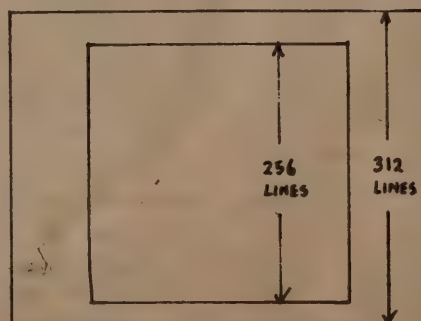

Fig.1
**HISTORICAL-** First of all, it is not generally realised that the SSTV system originally devised by Copthorne Macdonald was an AM system with negative going video modulating a 2300Hz sub-carrier. After a couple of years trial with this system it soon became obvious that an FM system would give superior results, particularly from the point of view of ignition interference which, with the old AM system, gave rise to spurious sync pulses. Hence we now have our present FM system with 1200Hz for sync, 1500Hz for black and 2300Hz for white. How nice it would have been if the white frequency had been 2400Hz; so much easier for pattern generation, but this is a piece of history we have inherited. Another historical relic is the 1:1 aspect ratio of the picture; this was chosen so as to make best use of the circular 5FP7 radar type CRTs which had an afterglow screen and was used in the early monitors. These tubes gave good pictures, especially when viewed in the dark, but there was always the annoying fading of the trace and the brilliant refresh line coming down the screen. Modern scan-converters which use computer-style memories to display the SSTV picture on a standard fast-scan monitor screen have to fit the 1:1 picture into the 4:3 and 312-line picture (assuming no interlace). As the SSTV picture is usually 128 lines, this is done by displaying each line twice and thus using 256 of the 312 lines available; in addition a blank space is inserted at the start and end of each line as shown in fig. 1. The earlier SSTV experiments were all done with 120 lines, but with the advent of logic ICs for counters it
The mention of "quadruple shift-registers" above, ties in with the 4 bits which the 711s produce; one shift-register is allocated to each bit. If the fast clock is made a little too fast then the first part of the fast scan line disappears out of the end of the shift-register and is lost. This is a good thing as it enables us to adjust the left-hand edge of the SSTV picture with relation to the fast-scan screen. See Fig. 1 again. Similarly, if the slow clock is too slow it fails to deliver the last bit of the line and this can be used to control the right-hand edge of the SSTV display. But shift-registers are now going out of fashion as a means of storage and they are being replaced by the more versatile RAMs (Random Access Memories) which are limited only by their access time. If they are used in a manner similar to the shift-register then they should be capable of being clocked at about  $5\text{MHz}$ , which means that the access time should be less than  $200\text{ns}$ . Dynamic RAMs are readily available with access times of  $150\text{ns}$  and these serve as very satisfactory picture stores. The main difficulty with RAMs is that each chip requires a large number of address lines and it is these addresses which must be clocked at the fast or slow rate; on the bonus side, however, is the fact that each picture element can be selected by using the correct address and one is not limited in the order in which they are selected.